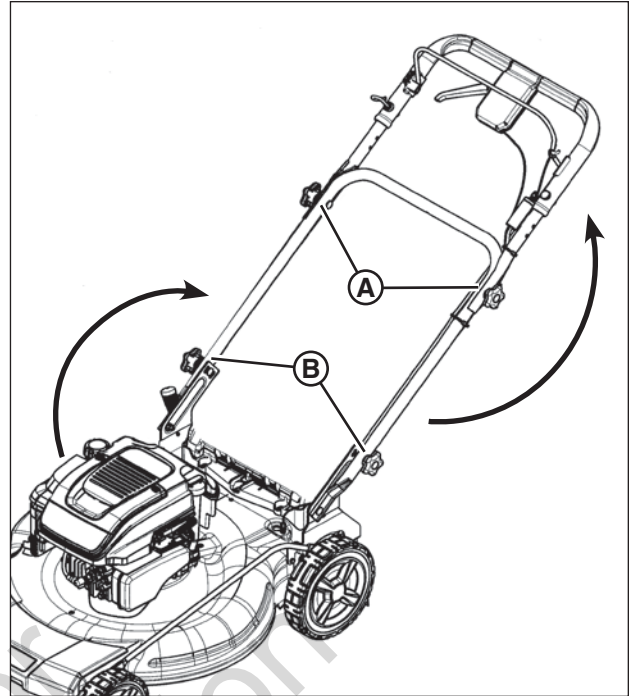

Figure 2: Raising the handle assembly
1. Loosen, but do not remove, the knobs (**A, Figure 2**) on both sides of the upper handle.
3. Remove the handle knobs, washers and carriage bolts from the lower handle (**B, Figure 2**).